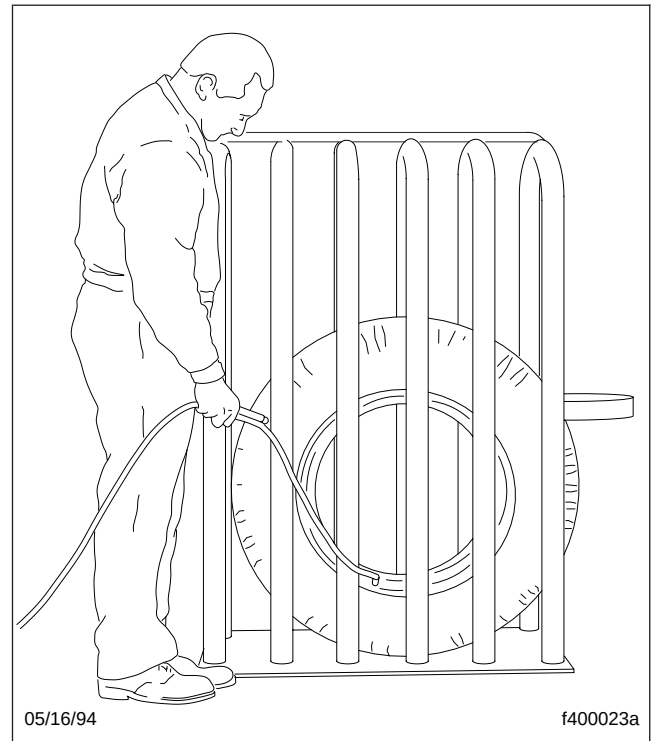

Fig. 1, Safety Cage for Tire Inflation
2. Place the tire in a safety cage, or an approved portable restraining device. See Fig. 1.